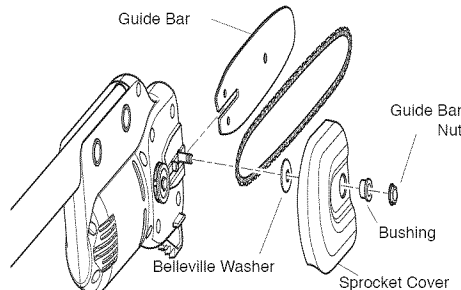

Figure 1 - Installing Guide Bar
2. Loosen and remove guide bar nut, sprocket cover, and washer (see Figure 1).